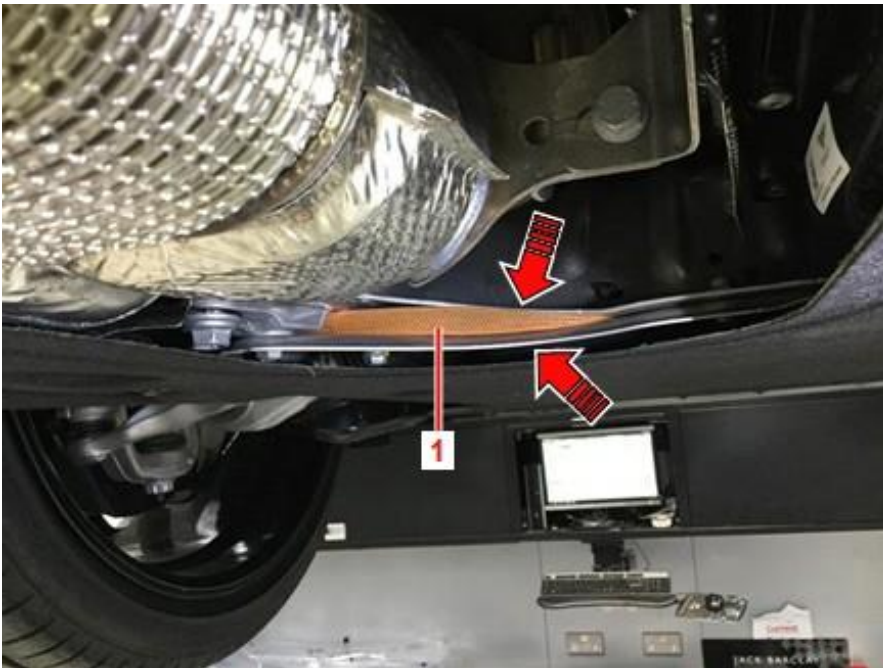

Figure 1
The 48 volt supply cable (1) to the anti-roll bar may appear to be trapped between the front subframe and the engine undersheet (arrows). See Figure 1.